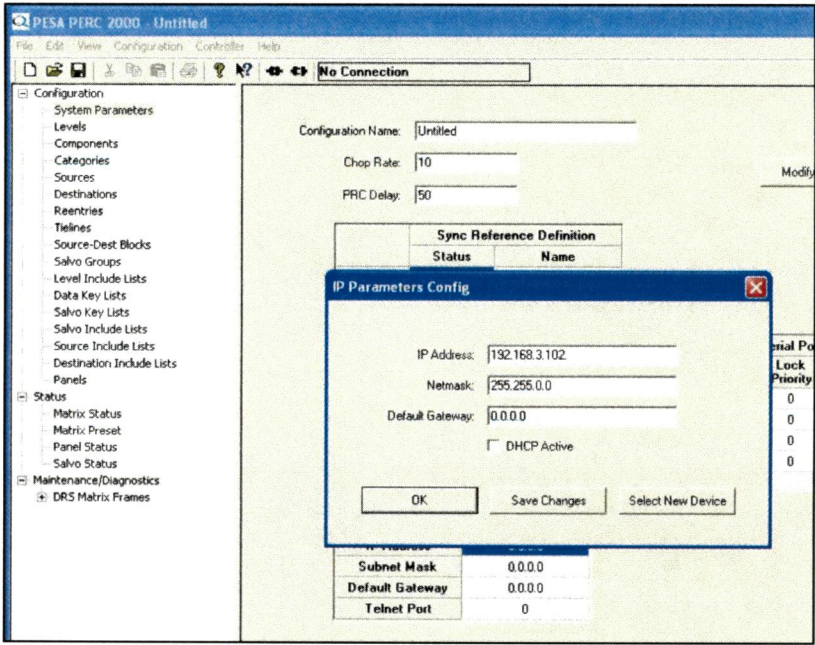
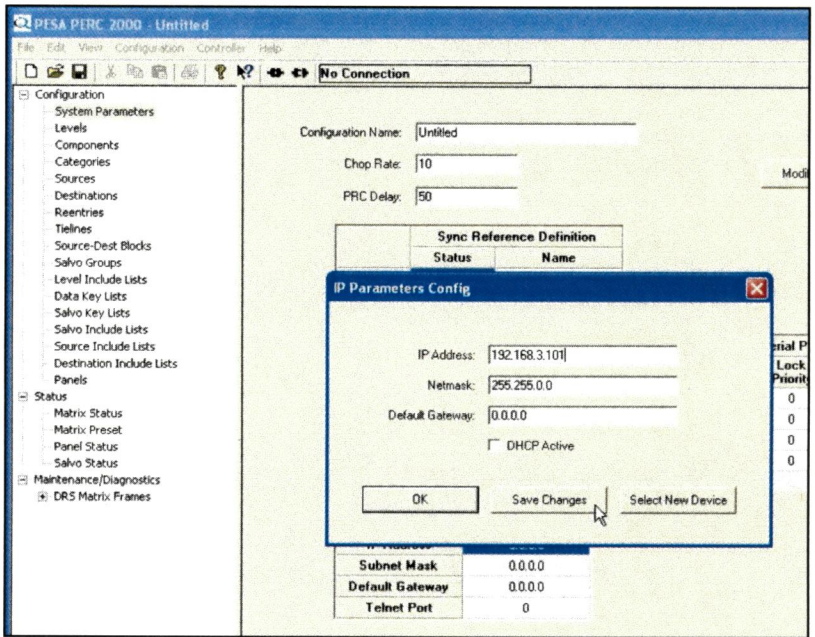

Figure 33. IP Address Data Entry Box
Figure 34. Entering IP Address Data
- ☐ 13. The Select Device box will clear and the IP Parameters Config box is displayed. Note when the box initially appears, the IP address listed is displayed as the current address of the controller, as shown in Figure 33. Click in the IP Address block and remove the currently listed IP address. Enter the EXACT SAME IP address you selected as the base IP address for the P1K controllers and programmed into the first P1K you changed in step 7. For our example you would enter 192.168.3.101 as shown in Figure 34. Click **Save Changes** to write the new address data to the P1K in the SEC slot. The new data will be written and the P1K will automatically reboot.